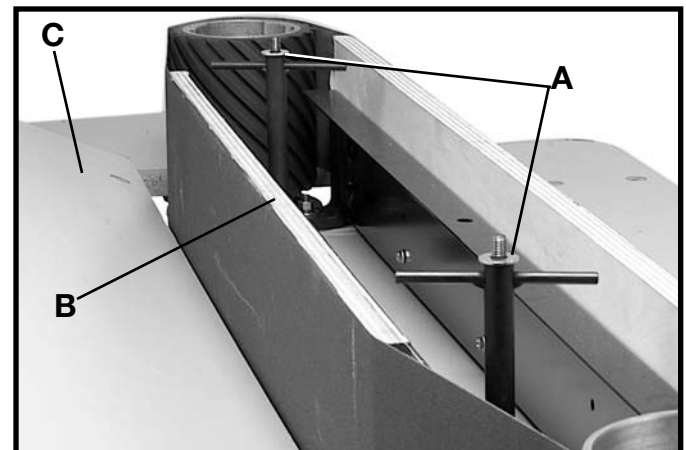

Fig. 28
3. Turn studs (A) Fig. 28, counterclockwise to loosen platen (B).
4. Adjust platen (B) Fig. 28, until the sanding belt is close to, but not contacting tilting table (C). Tighten studs (A) Fig. 28, after adjustments are made.